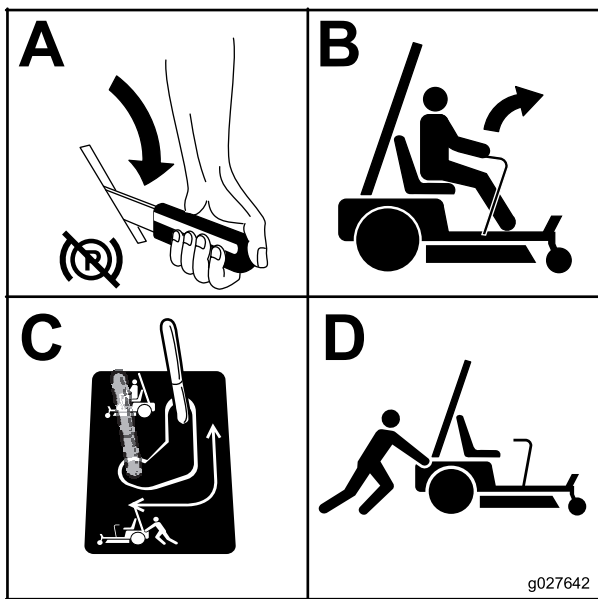

Figure 27
3. Do this procedure on each side of the machine (Figure 27).
4. Move the bypass to the position for operating the machine (Figure 27) to engage the wheel motors.